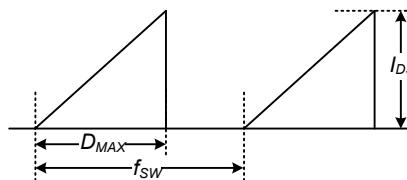

Figure 4. Repetitive Peak Switching Current
- Repetitive peak switching current when the inductive load is assumed: Limited by maximum duty ($D_{MAX}=0.75$) and junction temperature (see Figure 4).